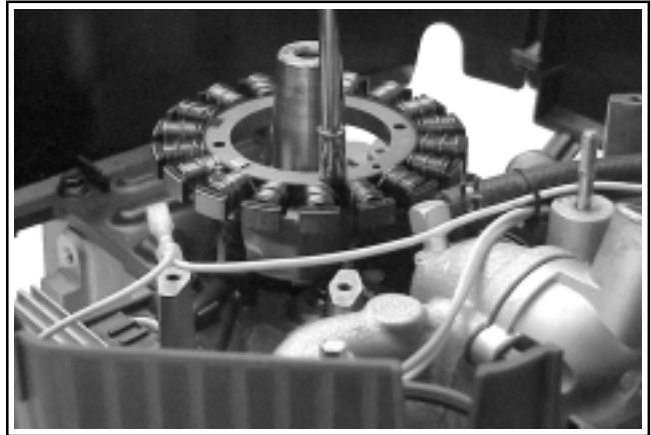

Figure 9-38. Removing Stator.
1. Remove the two stator mounting screws. See Figure 9-38.